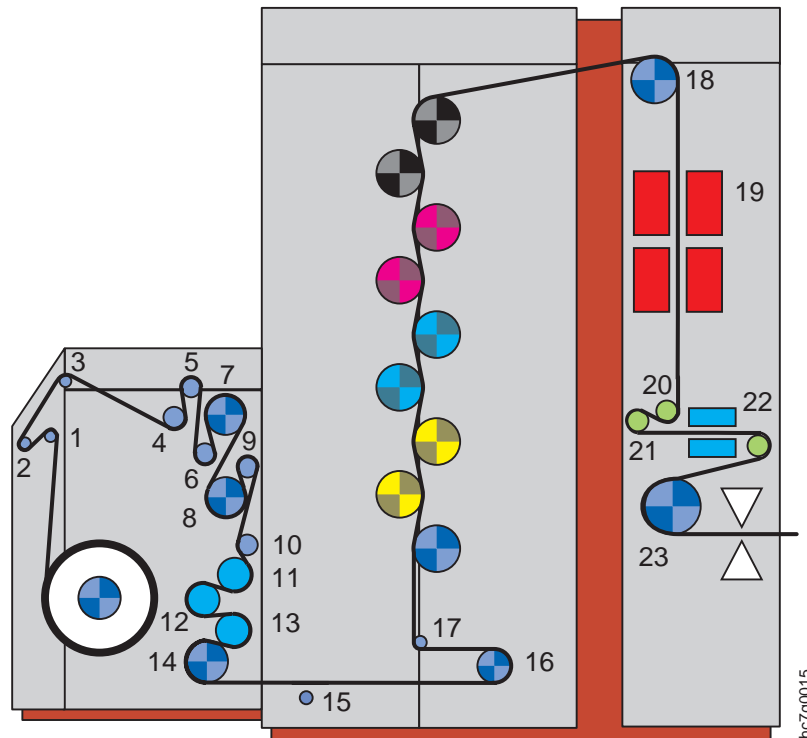

Figure 324. Print Tower Paper Path
8. Thread the paper around the speed roll (roller 16), as shown in Figure 324, in a counter-clockwise direction.